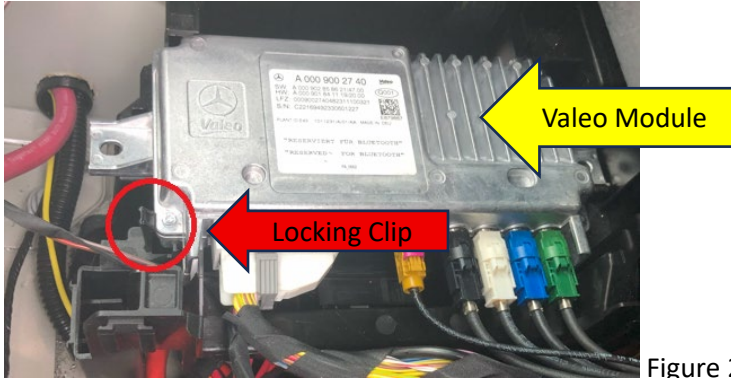

Figure 2
- 3. Remove Mercedes Valeo Module shown in figure 2 by pulling up on the front edge while pressing the locking clip forward. Set the module aside to access the PSM below it.